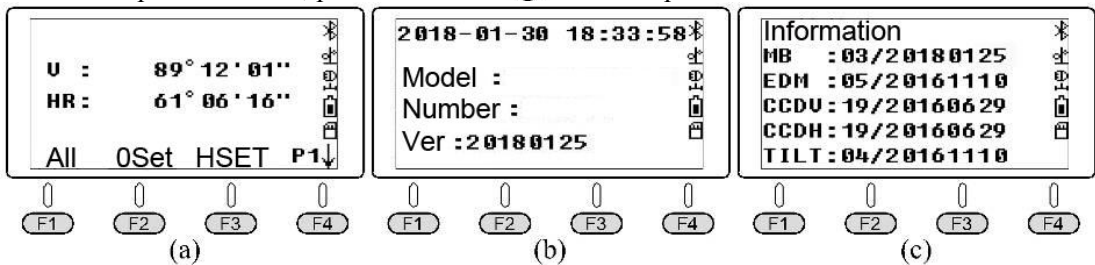

Figure 2-4 Angle Measurement, Instrument Model, Hardware and Software information of instrument
Press and hold Ⓢ for 2s to power on, and the factory setting is to enter the interface of Angle Mode [Figure 2-4(a)]. Press ESC to switch the display to the interface of instrument information and data as shown in Figure 2-4(b), and then press to return to the interface of Angle Mode. Press buttons MENU F4 ③ (for the hardware information) to display the instrument hardware information as shown in Figure 2-4(c).